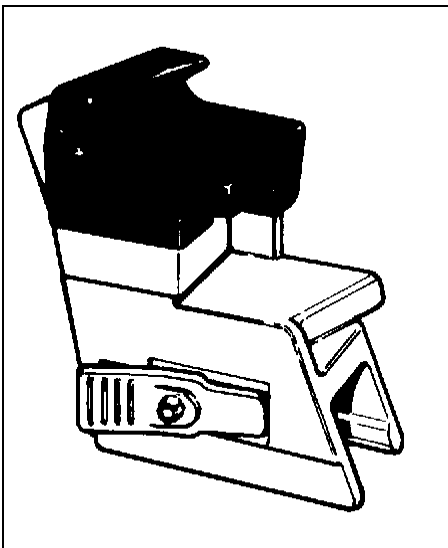

Fig.4
**#4015099 motorcycle adapter (Fig.4)**